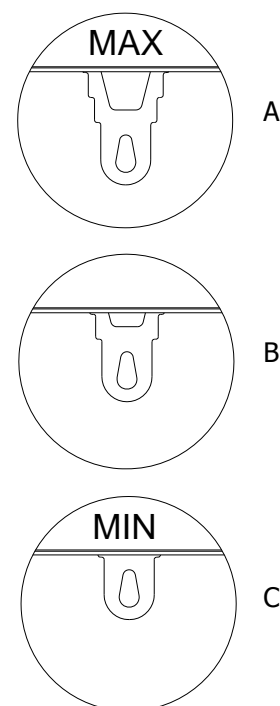

Figure 15– Air Register Control
- Open the primary air register completely (fig.15 A)
- Only once the flame is burning well (presence of a bed of ash and full combustion) should the air register be moved to the desired setting (see fig.15, section 5.5).
The stove has an inflow on the front of the firebox that permits the entry of the primary and secondary air required for combustion. The settings for the air input are displayed in **Fig 15**.